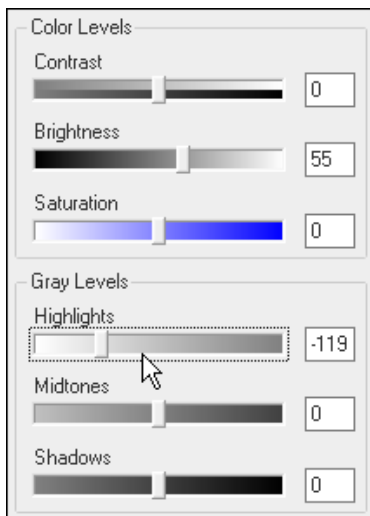

Figure 10—Color/Gray Levels
The Color/Gray Levels tool allows you to adjust the color composition of an image by altering the contrast, brightness, and saturation of your colors and the highlights, mid-tones, and shadows of your grays. Click **Tools** in the Color Correction tab and then select **Color/Gray Levels** to open this tool (see Figure 10).
1. Click **Tools > Color/Gray Levels** in the *Color Correction* tab. This opens the *Color/Gray Levels* tool (see Figure 10).